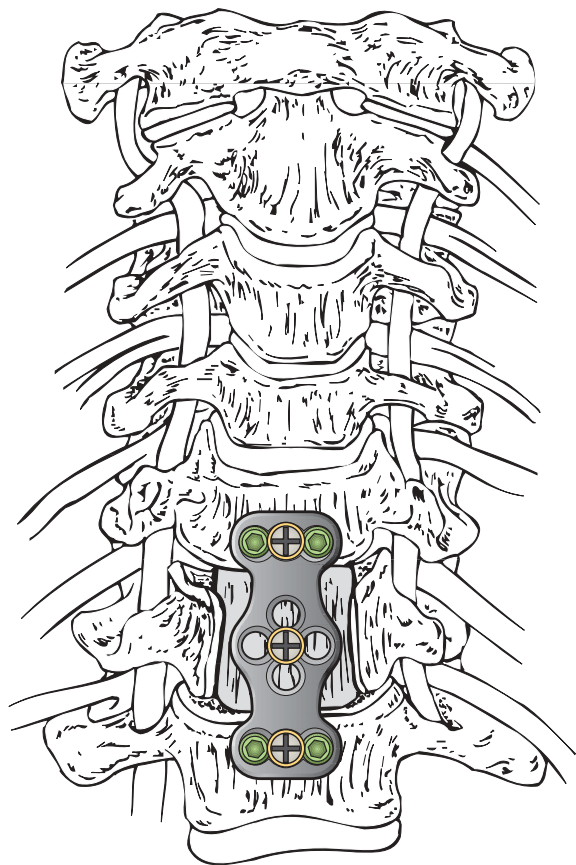

FIGURE 11B
**All lockscrews within the plate must be fully engaged and tightened before the procedure is complete (*Figure 11B*).**